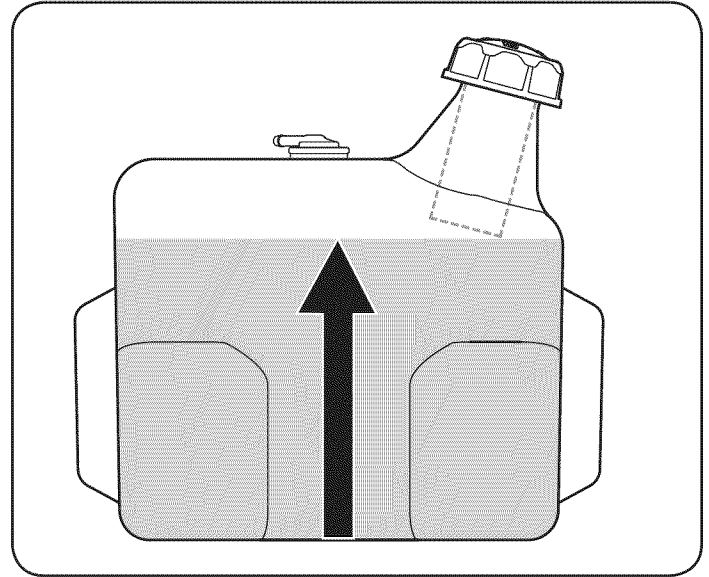

Figure 8
**IMPORTANT:** Do not overfill the tank. Fill tank to no more than 1/2 inch below bottom of filler neck to allow space for fuel expansion. See Figure 8.